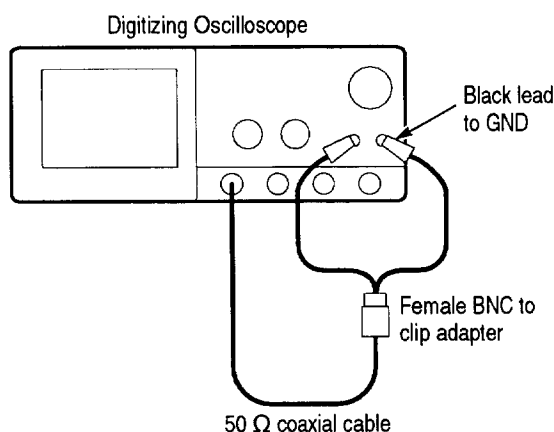

Figure 1–22: Initial test hookup
- Connect one of the 50  $\Omega$  cables to **CH 1**. See Figure 1–22.
- Connect the other end of the cable just installed to the female BNC-to-clips adapter. See Figure 1–22.
- Connect the red clip on the adapter just installed to the **PROBE COMPENSATION SIGNAL** on the front panel; connect the black clip to **PROBE COMPENSATION GND**. See Figure 1–22.